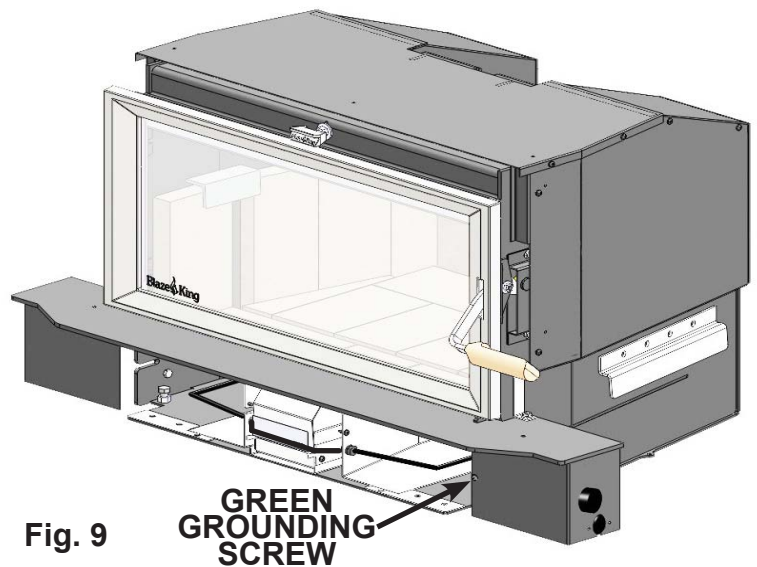

Fig. 9
4. Ensure wiring is run above the protruding flanges. (**Fig. 9**) Complete the wiring assembly by connecting the loose end of rheostat to power cord. Then connect other loose end of power cord to loose end of fan interconnect wire harness. Finally, using supplied ground screw, fasten power cord and interconnect ground wire to ground hole on front of lower shroud.